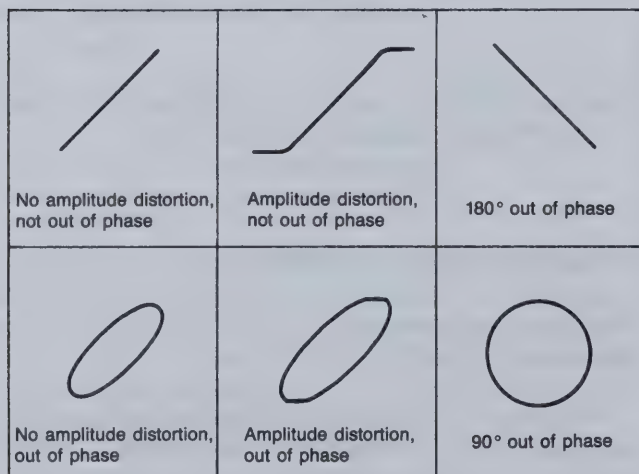

Fig. 22. Typical X-Y Phase Measurement Displays.
(Refer to Fig. 22)
5. If necessary, repeat step 3, readjusting the channel 1 and 2 gain controls for a suitable viewing size. Some typical results are shown in Fig. 22.